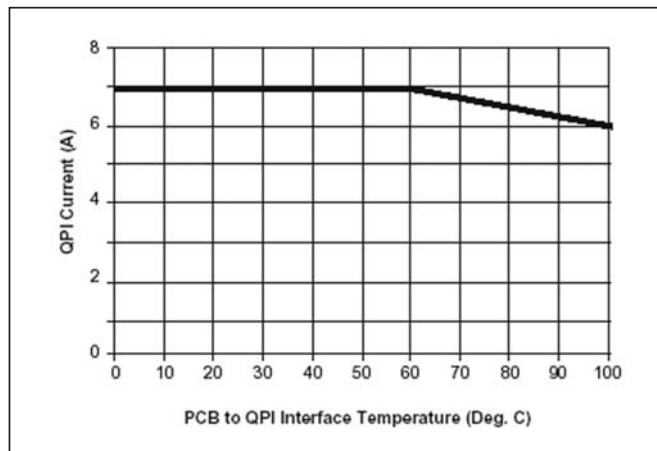

Figure 6 – Current vs. PCB temperature derating curve.
- -40° to +100°C PCB temperature (see Figure 6)